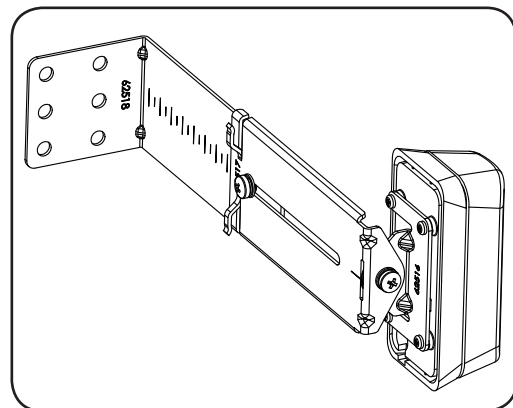

Fig. 41
- Make horizontal and/or vertical (**Fig. 41**) adjustment on the transmitter and/or receiver until the red LED turns off on the receiver, indicating alignment.